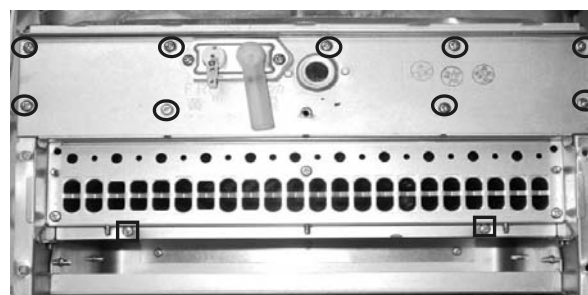

Figure 3 9 screws (burner cover plate) 2 screws (burner)
11. Remove the 9 screws attaching the burner cover plate to the combustion chamber. (Figure 3)
12. Remove the 2 screws attaching the burner to the heat exchanger. Pull out the burner. (Figure 3)
24. Insert the burner and place the burner cover plate into position. Attach the burner cover plate first with 9 screws and then attach the burner with 2 screws. (Figure 3)